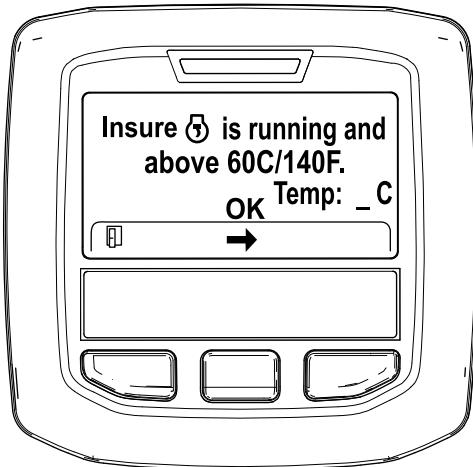

Figure 35
- If the coolant temperature is below 60°C (140°F) the "Insure" icon is running and above 60C/140F" message displays. (Figure 35).